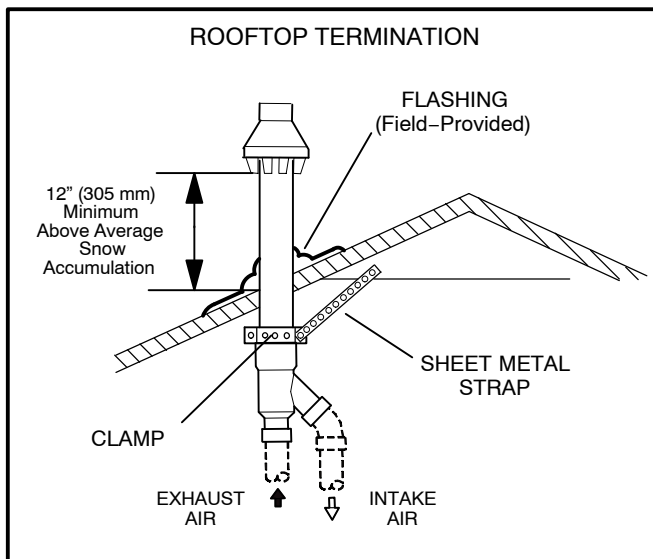

FIGURE 3
- 4 – Run 3-inch (76 mm) pipe through roof opening. Use a sheet metal strap to secure the termination to the roofing joist as shown in figure 3.
- 5 – Slide field-provided flashing over pipe and secure flashing to roof as shown in figure 3. Seal around flashing to make sure it is weather-tight.